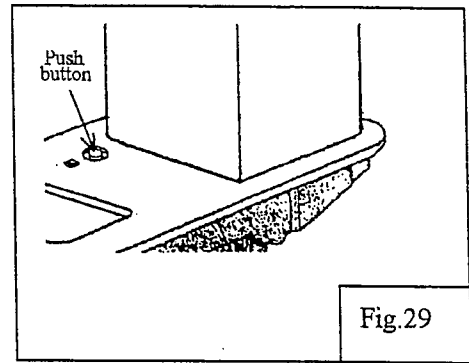

Fig.29
**B How to set the safety clutch (Fig.29)**